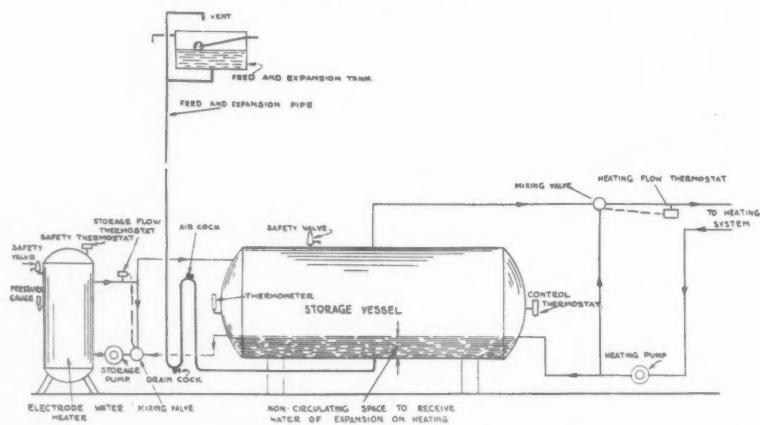

Figure 187. Diagram showing connection of expansion pipe and mixing arrangements of electrode heater.
(5) Protective gear is necessary in the case of electrode water heaters to prevent operation on two out of the three phases, or with out-of-balance currents. Such faults might cause heavy earth leakage currents since the latter are only avoided when the current from all three phases is equal.
(6) The mixing valve, which is an essential part of every thermal storage plant, consists of three ports. One is the high-temperature water inlet, one the cool return water inlet, and one the mixed water outlet. The proportions of the two former are controlled by a valve or valves operated by means of water pressure, electrical solenoids, or motor, from a thermostat in the mixed outlet pipe.
(7) As the temperature in an electrode heater rises the resistance of the water becomes less and the load correspondingly goes up. Thus a 100 kW heater at 100 deg. F. would at 300 deg. F. have an output of about 220 kW. Means to provide a constant outlet temperature, and hence constant load, are included by some installers making use of a further thermostatically controlled mixing valve in the boiler-cylinder circulation shown in Fig. 187.